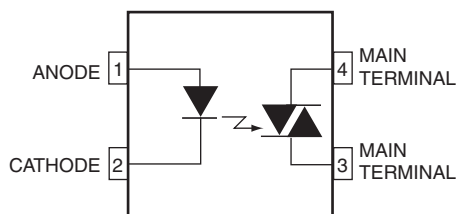

Figure 1. Functional Schematic
- This is static dV/dt . See Figure 1 for test circuit Commutating dV/dt is function of the load-driving thyristor(s) only.